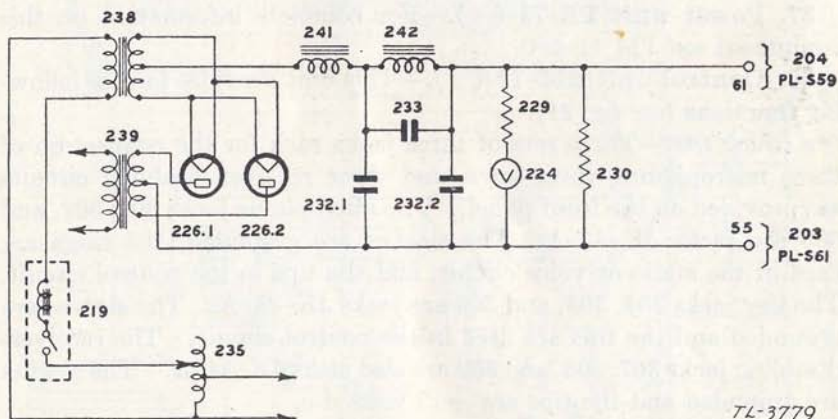

FIGURE 20.—Functional diagram of high-voltage rectifier secondary circuit of RA-34-B.
*e. Plate rectifier circuit.*—The plate rectifier utilizes two tubes VT-46-A, 226.1 and 226.2, in a full-wave circuit with a two-section, choke-input filter. (See fig. 20.) The output is 1,000 volts direct current at 350 milliamperes. Transformer 238 provides 10 amperes at 2½ volts for the filaments of these tubes. Its primary is connected through circuit breaker 219 to the output of variac 235. Transformer 239 provides the high voltage for the plates of the tubes. Transformer 239 has primary tap to permit adjustment of the d-c voltage from the rectifier. The output of the rectifier is filtered by swinging reactor 241, capacitor 232.1, reactor 242, tuned by capacitor 233, and followed by capacitor 232.2. Connected across the output of this rectifier is bleeder resistor 230 and meter multiplier resistor 229, in series with